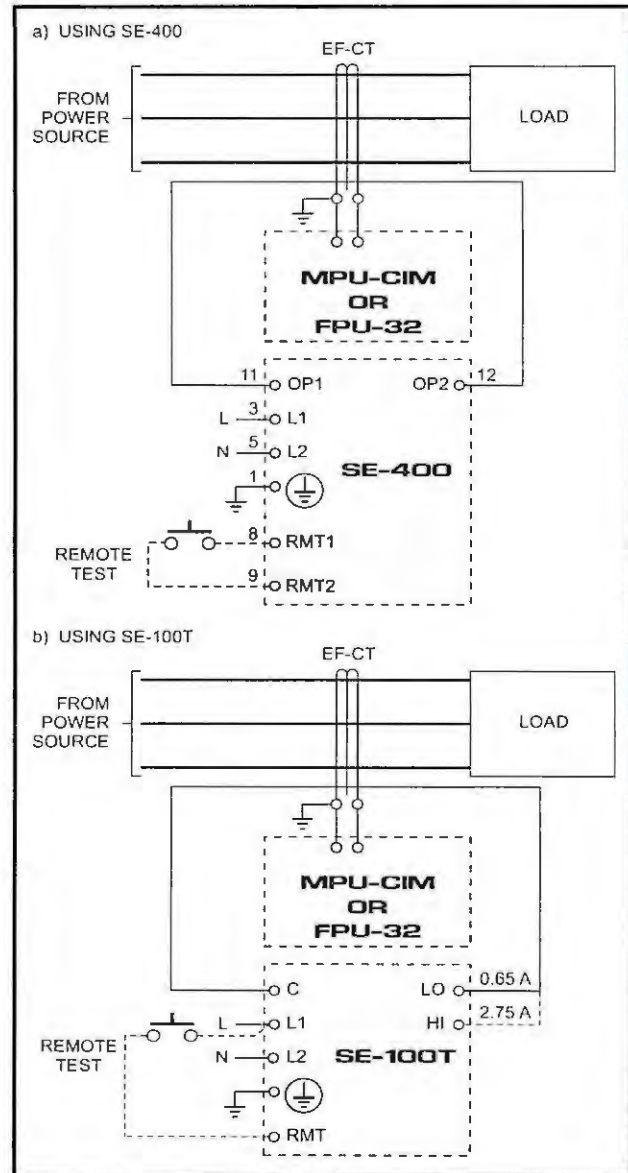

FIGURE F.1 Ground-Fault-Test Circuits
- d) Verify proper reaction of the circuit-interrupting device in response to a simulated or controlled ground-fault current. To simulate ground-fault current, use CT-primary current injection. Fig. F.1(a) shows a test circuit using an SE-400 Ground-Fault-Relay Test Unit. The SE-400 has a programmable output of 0.5 to 9.9 A for a duration of 0.1 to 9.9 seconds. Set the test current to 15% greater than the FPU-32 trip setting. Fig. F.1(b) shows a test circuit using an SE-100T Ground-Fault-Relay Tester. The SE-100T provides a test current of 0.65 or 2.75 A for testing 0.5- and 2.0-A trip levels. Inject the test current through the current-transformer window for at least 2.5 seconds. Verify that the circuit under test has reacted properly. Correct any problems and re-test until the proper reaction is verified.